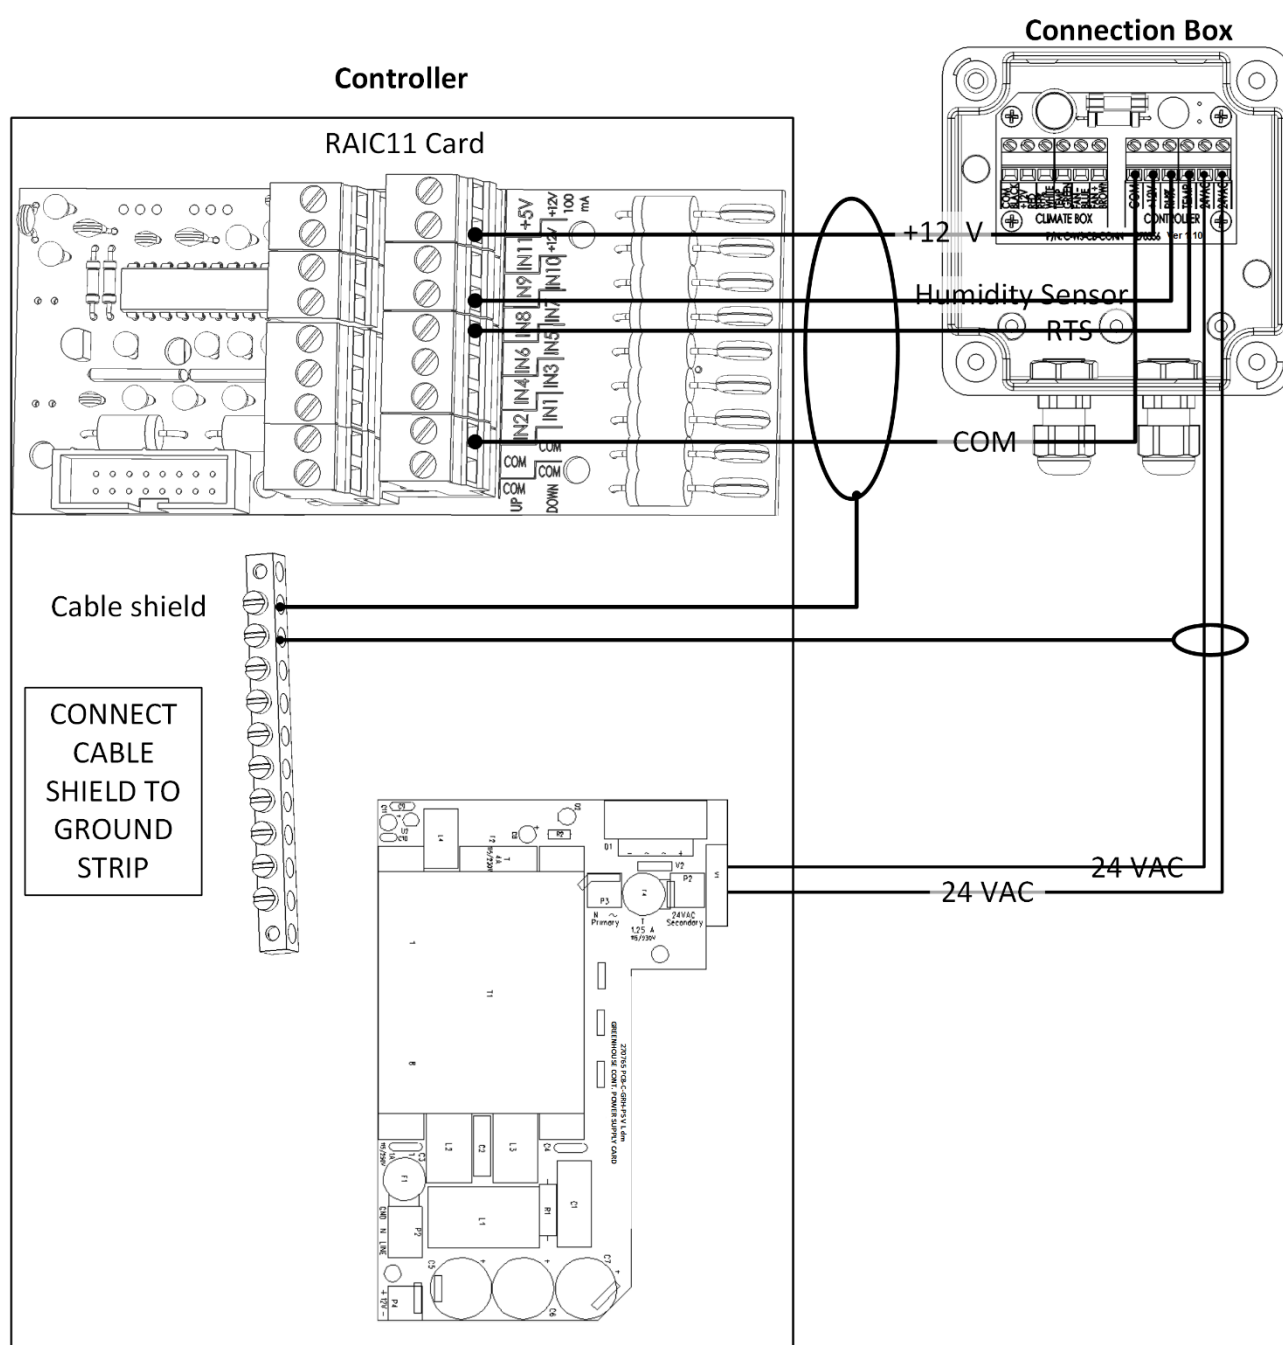

Figure 3: Controller / Connection Box wiring diagram
4. The Green Box and Connection Box come with the wiring installed. The user needs to wire the Connection Box to the controller analog input card and power supply (Figure 3).
1. Wire the Connection Box to the controller as shown in Figure 3.